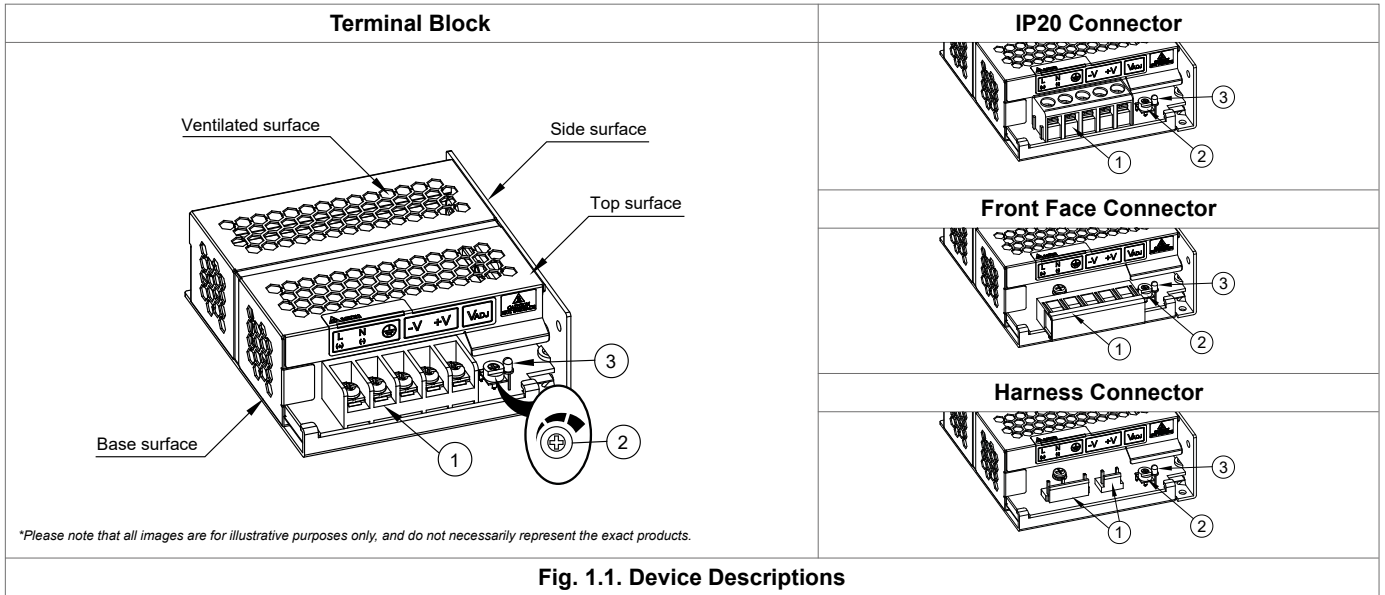

Fig. 1.1. Device Descriptions
► **PMH-50WCA□** (Refer to Fig. 1.1)
- ① Input & Output connector
- ② DC voltage adjustment potentiometer
- ③ DC OK control LED (Green)